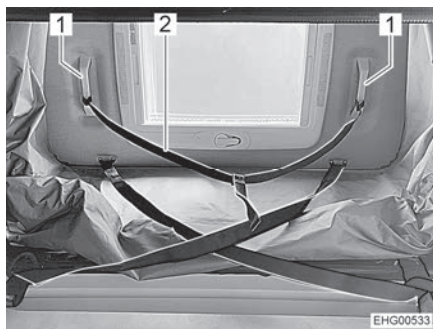

Fig. 55 Auxiliary strap
- Slowly pull the elevating roof down two thirds by the auxiliary strap (Fig. 55,2) until the elevating roof stops on its own. While doing so, observe the following:
- Pull the elevating roof down completely using the two U-handles (Fig. 55,1) until the side locks snap in audibly.